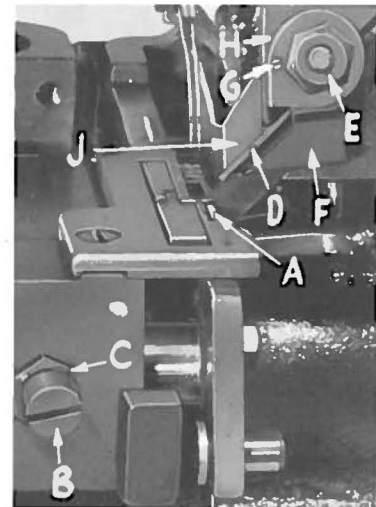

Fig. 10
Replace lower knife holder assembly. Lower knife (A, Fig. 10) should be set with cutting edge flush with throat plate surface. Adjustments are made with hexagonal head screw which holds lower knife. Lower knife is spring pressed against upper knife, so no lateral adjustment is necessary when width of trim is changed.
Replace upper knife assembly. Clamp upper knife (D, Fig. 10) in position, setting nut (E) to hold clamp (F) in its most clockwise position against upper knife. At bottom of its stroke, front cutting edge of upper knife should extend not less than $\frac{1}{64}$ inch below cutting edge of lower knife. The chain guard (J) should be set down against the upper knife and slightly back from the cutting edge.